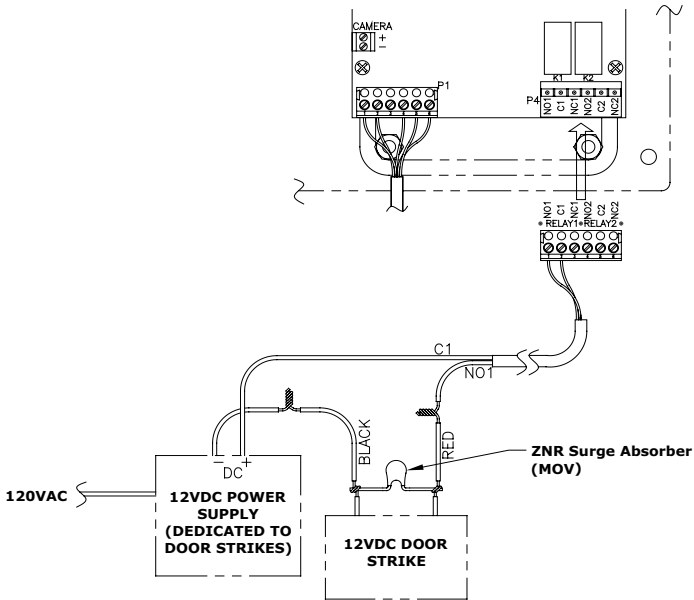

Figure 21
- Door Strike.** The door strike connection is similar to a gate operator connection, except that the door strike requires power supplied by an external power supply. The power supply required will depend on the type of door strike. Do NOT use the same power supply that provides power to the APEX device. Refer to Figure 21 for details of connecting the door strike.
In Figure 21, the two wires that connect to the relay are labeled C1 and NO1. These should be connected to the Common and Normally Open contacts of one of the relays. The door strike can be connected to either relay if the Extended Door controls are not being used.